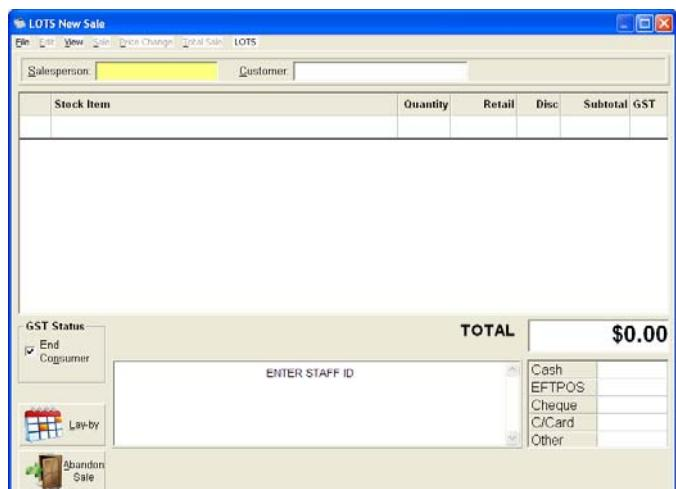

Figure 17
3. The LOTS New Sale screen will be displayed (as shown in Figure 17).